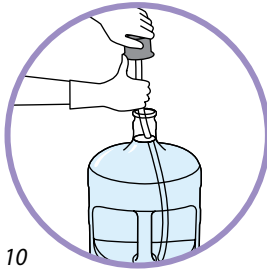

Fig 10
- Wearing gloves, carefully unpack the new bottle adaptor. Pull the adaptor tube to straighten (Fig 10) and insert it into a new water bottle.